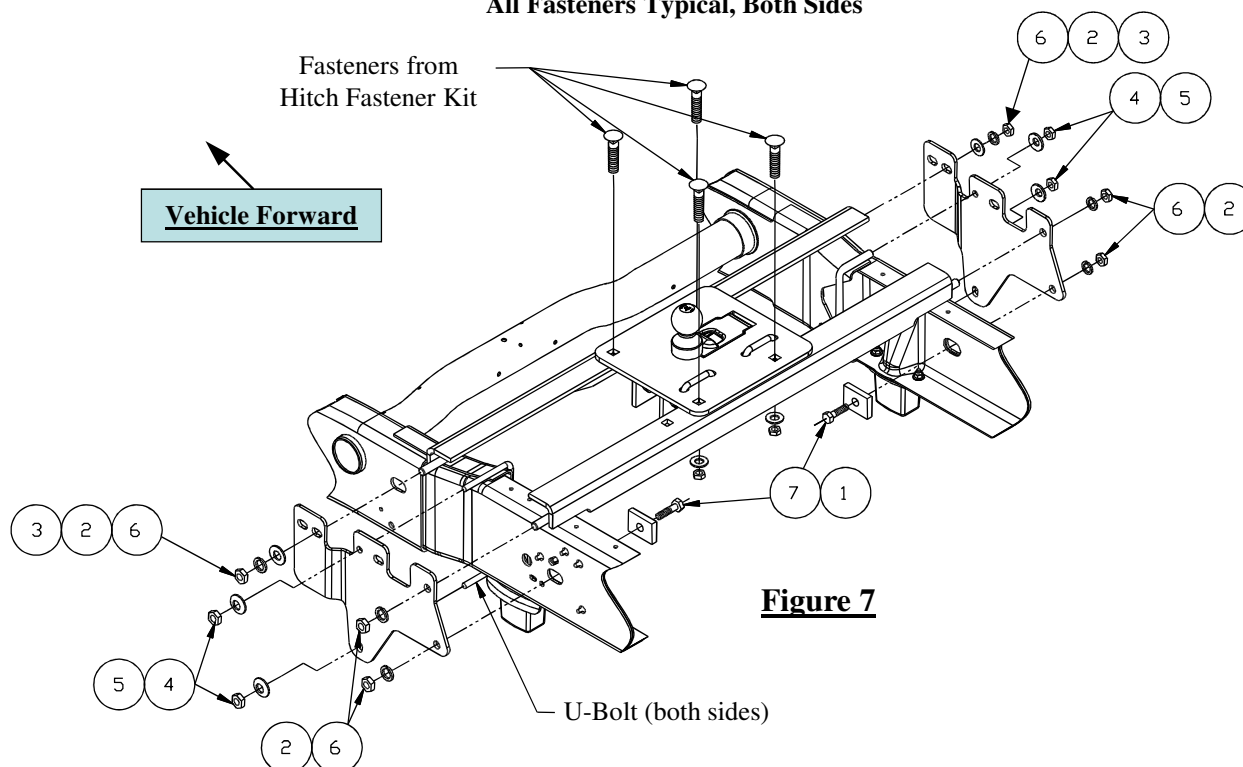

Figure 7
5. Slide the hitch cross members through the notch(es) in the sheet metal flange. Figure 7 shows the forward and rear rail and the direction to orient each rail.
6. Line up the mounting holes on the frame brackets with the threaded studs on the ends of the rails. See Figure 10 to identify which holes on the frame brackets to use. Loosely attach frame brackets to rails with 5/8" hex nuts, lock washers, and flat washers as shown in Figure 7.
7. Use the U-Bolts to attach the frame brackets to the frame as shown in Figure 7.
8. Attach the frame bracket to the frame through the slot in the frame using the 5/8" x 2-1/2" bolt, lock washer and nut as shown in Figure 7.